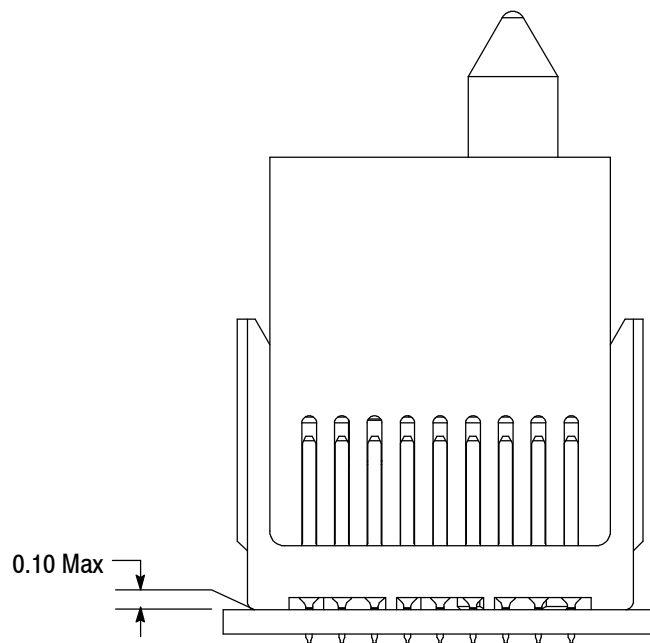

Figure 8
*Correct seating of connector is essential to interconnection performance. This includes correct seating height (see Figure 8) and force applied. Over-seating of product will deform parts critical to the quality of the connector. Maximum force occurs prior to the connector bottoming on the pc board.*
The connectors with compliant pin contacts are seated using seating tools. See Figure 9. These tools may be used in the application machines listed in Section 5, TOOLING, or with a suitable machine capable of supplying a minimum controllable downward force per compliant pin contact of 66 N [15 lbs]. Pin headers and receptacles must be seated to the dimensions shown in Figure 8.